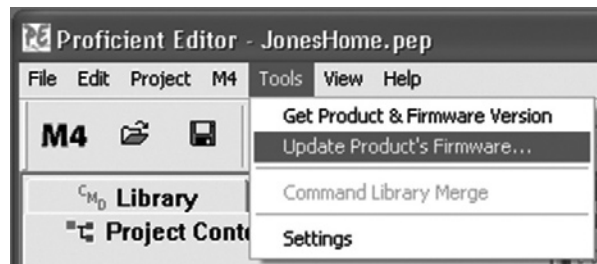

Figure 59 Updating Product's Firmware
7. Now to install the updated firmware in the device (M4, etc.), click **"Tools"** in Proficient Editor and then **"Update Product's Firmware..."** Refer to Figure 59.